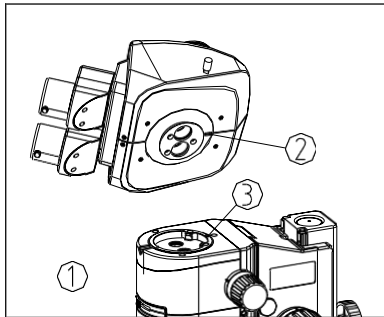

Fig. 6
- 1) Loosen the head lock-screw① fully with a M4 inner hexagon spanner.
- 2) Make the two tubes face forward, from a little rear position of the center, insert the coattail interface on the bottom of head into the hole of body with a little rear inclined. Match the orientation groove② of the head with the orientation pin③ of the body, and then screw down the lock screw①. (See Fig. 6)